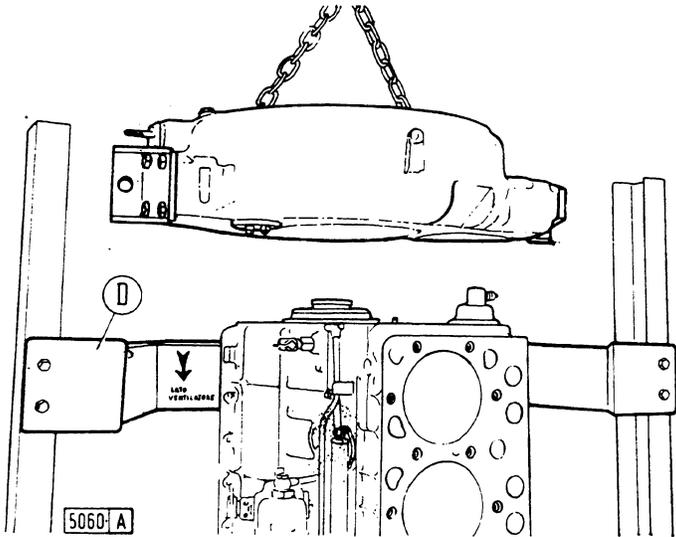

Fig. 34 - Removing (or Refitting) Rear Engine Support
- Before removing the rear engine support, connect the engine block to the rotary stand by means of bracket **291492** which should be positioned as shown in Fig. 34.